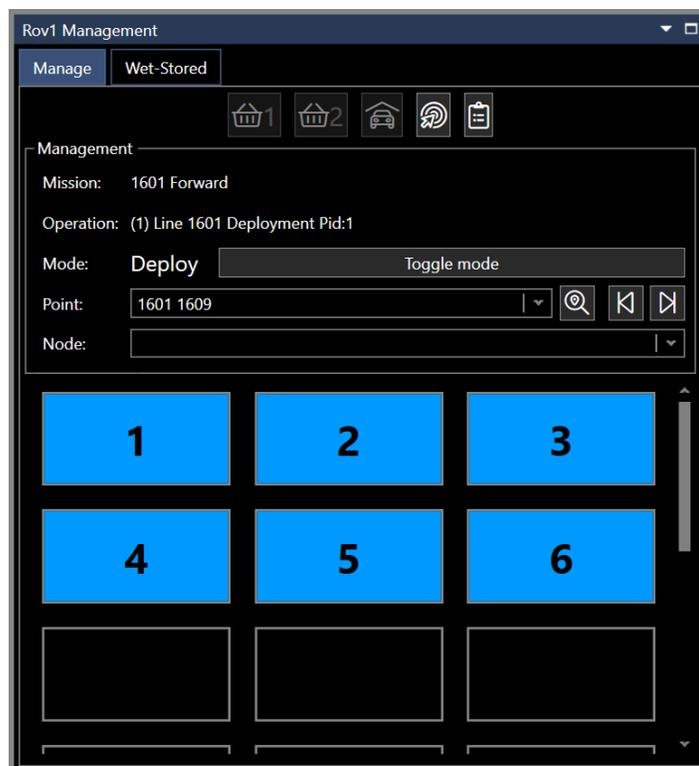

FIGURE 59 ROV MANAGEMENT WITH ASSIGNED TRAY
- **Node:** Select an available node from the drop down list. All deployable nodes are available in the drop down box. If a tray is assigned to the ROV a node can be selected by clicking on a node from the tray area, see Figure 59.